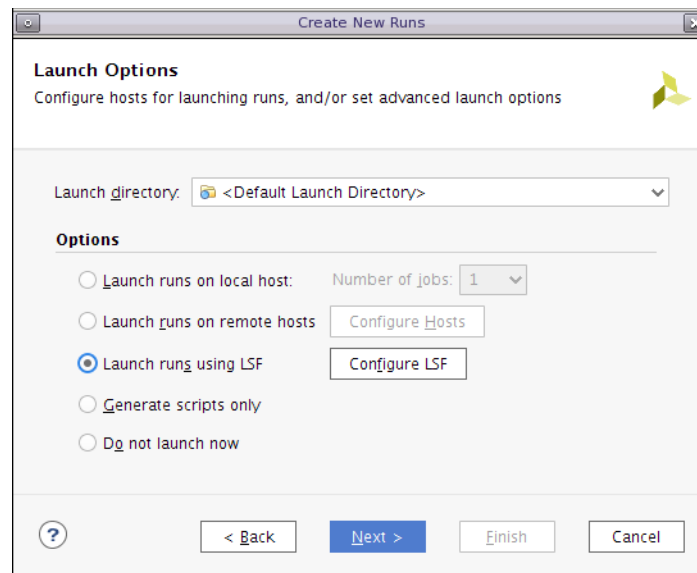

Figure 2-2: Implementation Launch Options
4. The Launch Options screen appears, as shown in Figure 2-2. Specify options as described in the steps below the figure.
Note: The **Launch runs on remote hosts** and **Launch runs using LSF** options shown in Figure 2-2 are Linux-only. They are not visible on Windows machines.